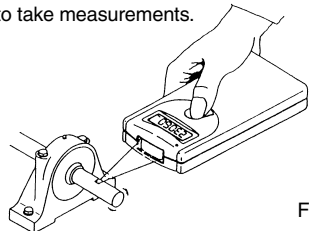

Fig. 1
- While holding the Measure switch down, aim the red light beam emitted from the probe head at the reflective marker as shown in Fig.1 and confirm the on-target indicator flashes. The distance between the probe head aperture and reflective marker must be 20 to 300 mm to take measurements.